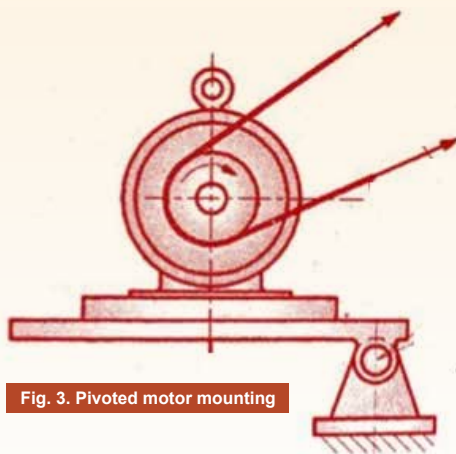

Fig. 3. Pivoted motor mounting
3. Pre-tensioning by pivoted motor mounting. (Fig. 3) ■